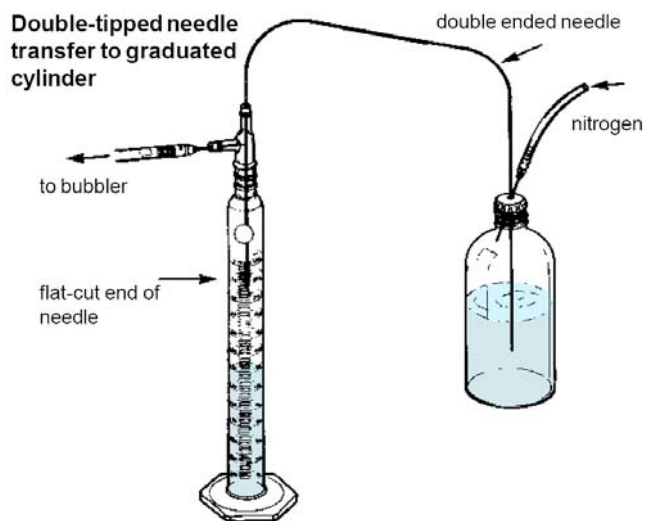

Fig. 3B Double-tipped needle transfer to graduated cylinder
- For an exact measured transfer, convey from the Sure/Seal bottle to a dry nitrogen flushed graduated cylinder fitted with a double-inlet adapter (**Fig. 3B**). Transfer the desired quantity and then remove the needle from the Sure/Seal